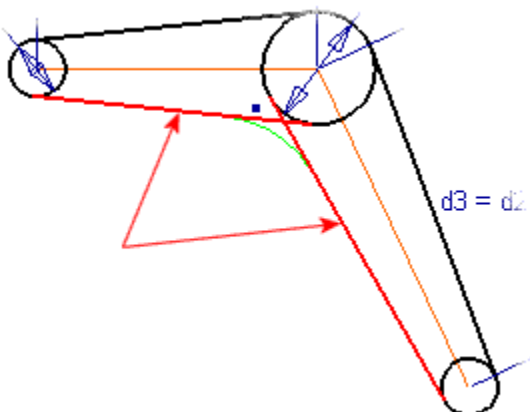

Figure 12: Fillet selections.
3. Click the two lines shown in Figure 12.